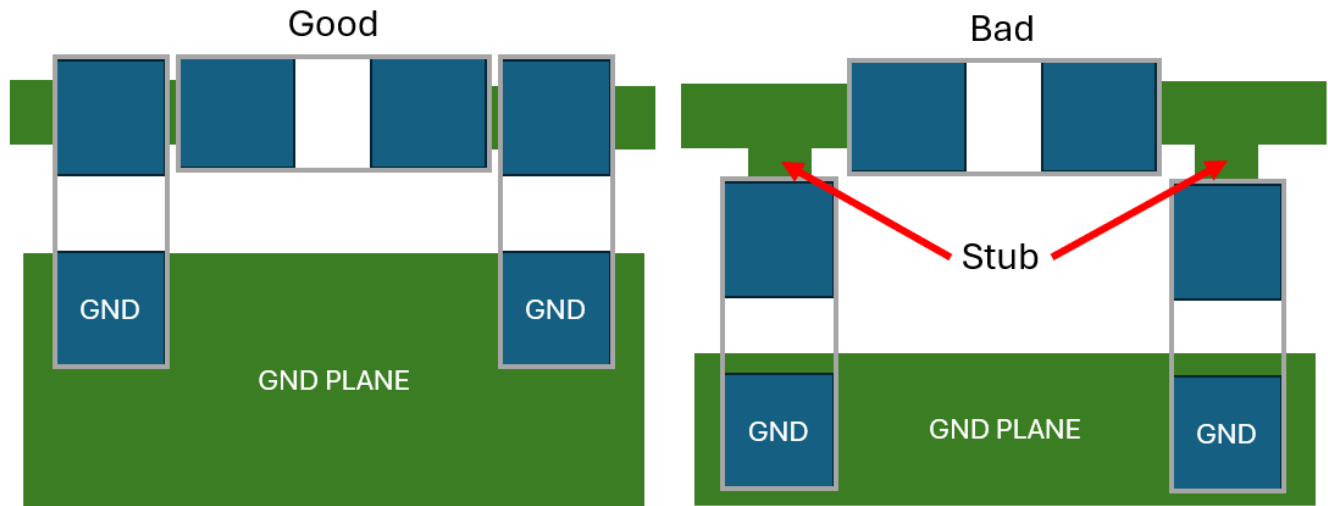

Figure 32. Recommended layout for minimizing the length of the stub
- 8. Minimize the stubs routing of the configuration straps to the chip lines. Where branched routing is used, minimize the length of the stub. Place the configuration strap resistor in the path or the routed trace where possible (close to the chip). See Figure 32.